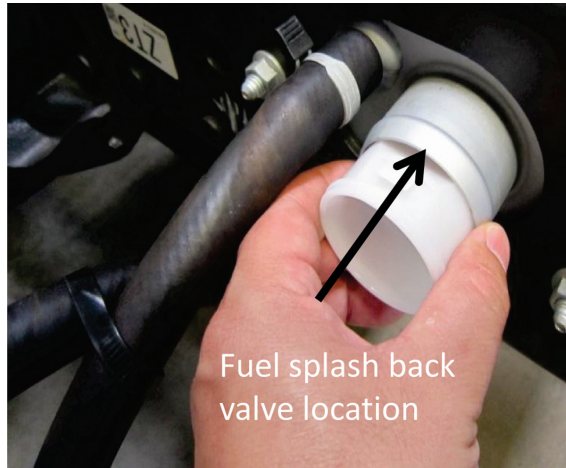
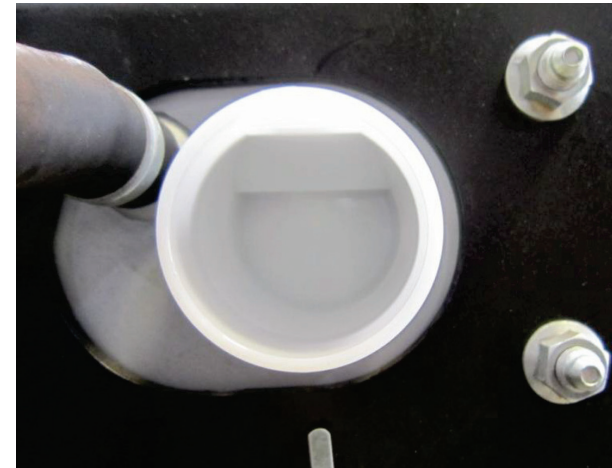

Figure 13.29.1
Figure 13.29.2
The fuel tank shutter valve (13) was a new component for 2011 model year. This component is meant to improve fuel splash-back performance of the fuel system. In the 2012 model year a running change was made and this valve (13) was relocated from the fuel tank inlet to the inlet (outboard side) of the fuel filler neck bulkhead assemble that is bolted to the left hand frame rail as shown in **Figure 13.29.1**. This plastic valve snaps into place in the inlet of the frame mounted fuel pipe. The valve should be installed so that the plastic clip is at the top of the valve, so that the flap door opens up, as shown in **Figures 13.29.2**.